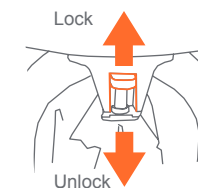

Fig. 14b
- Push the button on the wheel upward to engage the locks and push downward to disengage the locking device (Fig. 14b).